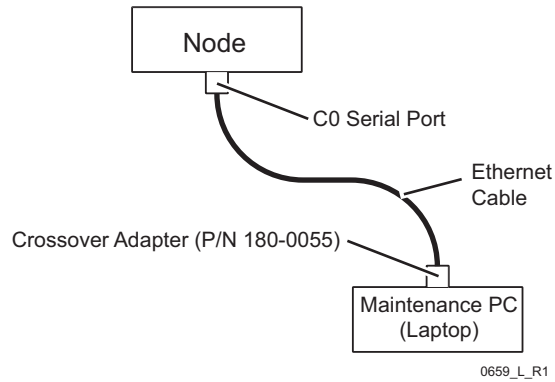

Figure 3-2. Connecting the Ethernet Cable
- 3 Attach a DB9 female to RJ45 serial adapter assembly (P/N 180-0055) to the free end of the Ethernet cable and then insert the adapter into the DB9 serial port (**COM 1**) of the maintenance PC, see Figure 3-2.